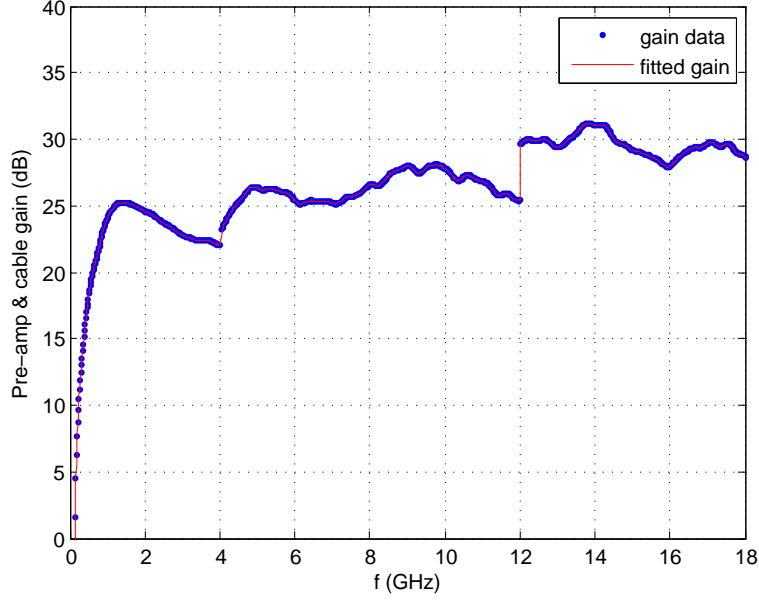

Figure 2: Measured and fitted gain of the preamplifiers plus low-loss cables from the antenna to the spectrum analyzer.
where P_m is the power measured by the analyzer at its input port and G_{amp} is the gain of the chain preamplifier plus low-loss coaxial cables from the antenna to the analyzer. This gain was measured in the lab with the help of a vector network analyzer (Keysight N5227A); the measurement was fitted in order to apply this correction to the spectrum analyzer measurements, as needed in equation (2). The measurement and the fit are shown in figure 2, where the jumps in the curves are due to the selection of a different preamplifier.